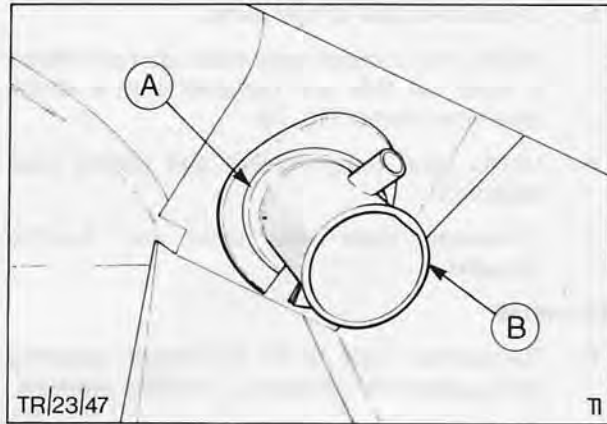
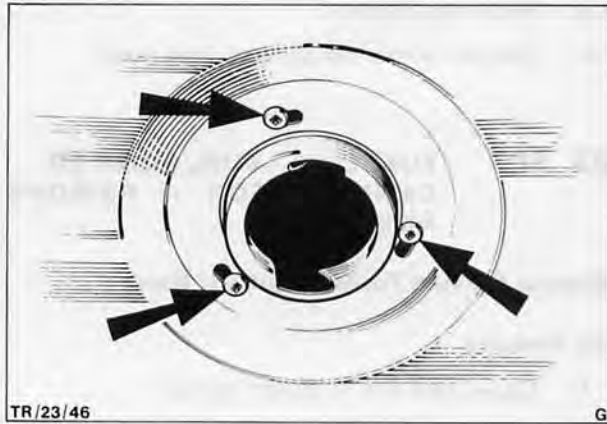

Fig. 75. Fuel filler pipe with extension pipe removed
Fig. 76. Filler pipe neck securing screws
6. Remove filler pipe extension and remove pipe to body sealing ring, Fig. 75.
7. Remove filler cap, pull out sealing ring and remove three screws securing filler pipe neck to body, Fig. 76.
9. From inside vehicle place filler pipe in position, secure neck securing screws, Fig. 76, and from under vehicle refit sealing ring, Fig. 75.